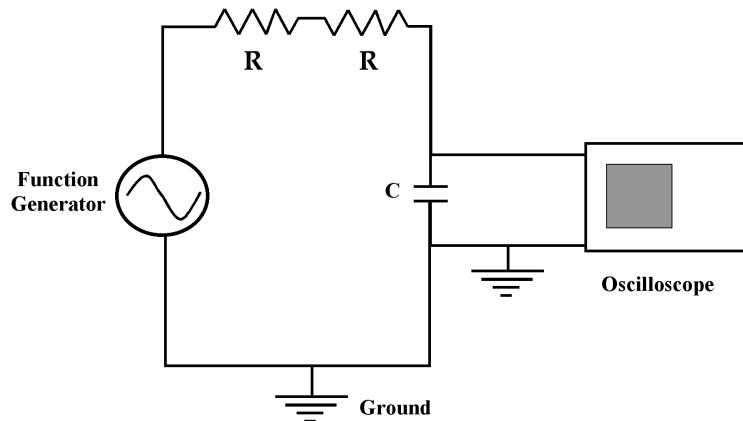

Figure 6: Circuit Diagram for RC Circuit with Two Resistors in Series
2. Construct a circuit with two $10 \text{ k}\Omega$ resistors in series and one $0.1 \mu\text{F}$. Refer to Figure 6.